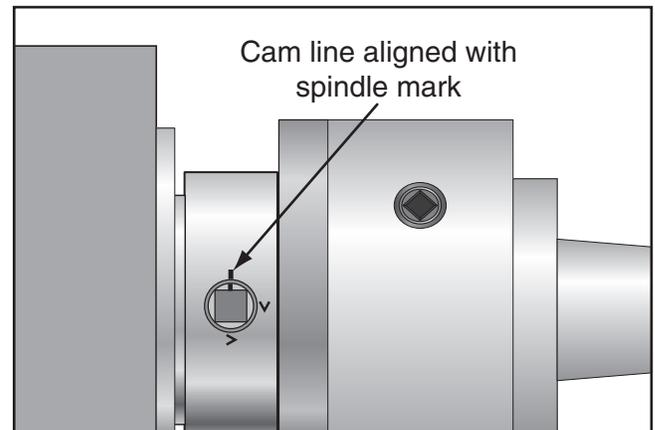

Figure 5. Spindle camlock fully loosened when cam line is aligned with the spindle mark.
- Loosen the spindle camlocks by using the key to turn them counterclockwise until each of the cam lines are aligned with its corresponding spindle mark, as shown in **Figure 5**.